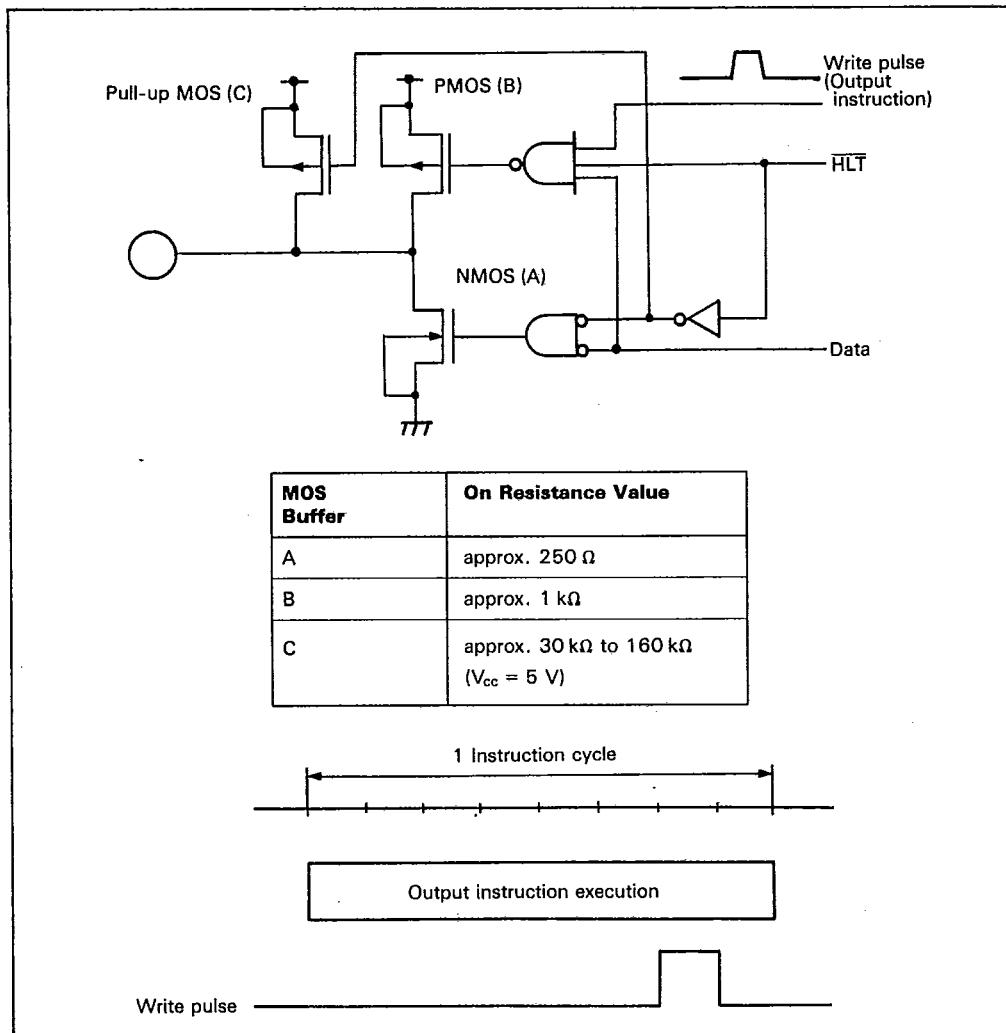

Figure 15. Output Circuit Operation of Standard Pins With Pull-Up MOS Option
**Output Circuit Operation of Standard Pins With Pull-Up MOS:** In the standard pin option with pull-up MOS, the circuit shown in figure 15 is used to shorten rise time of output.